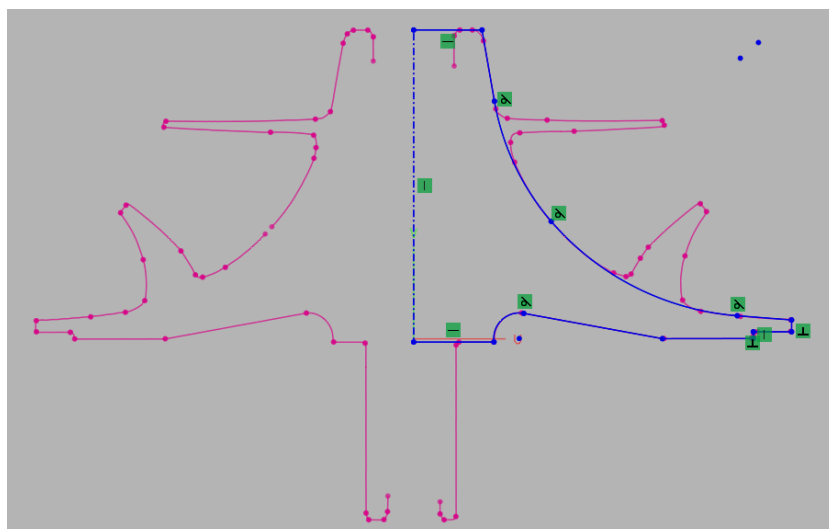

Figure 326
2. Sketch the inner profile shown in **Figure 326**.